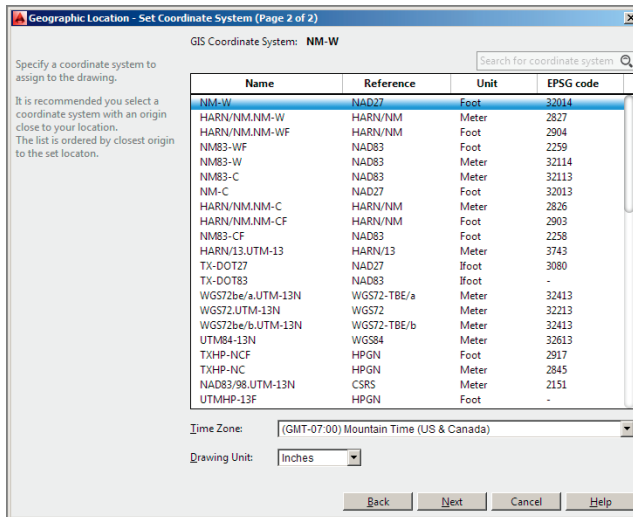

FIGURE 15.3 Choosing a coordinate system
2. Click the Next button at the bottom of the Geographic Location dialog box. Select the first item in the list of coordinate systems, NM-W in this example. This system has its origin point closest to the chosen site (see Figure 15.3).